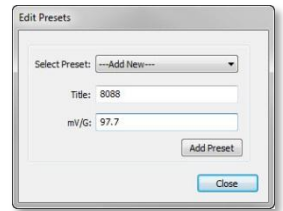

Figure 8: Edit Presets window
9. Click the Edit Presets button and the Edit Presets window appears (Figure 8).